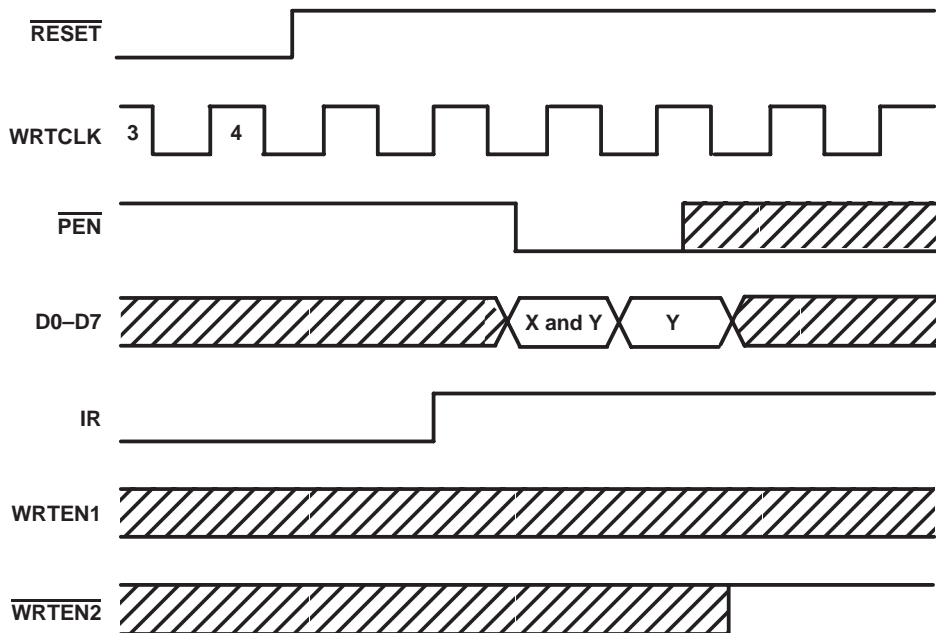

Figure 4. Programming X and Y Separately
Program enable (\overline{PEN}) should be held high throughout the reset cycle. \overline{PEN} can be brought low only when IR is high. On the following low-to-high transition of WRTCLK, the binary value on D0–D7 is stored as the almost-empty offset value (X) and the almost-full offset value (Y). Holding \overline{PEN} low for another low-to-high transition of WRTCLK reprograms Y to the binary value on D0–D7 at the time of the second WRTCLK low-to-high transition. When the offsets are being programmed, writes to the FIFO memory are disabled, regardless of the state of the write enables (WRTEN1, WRTEN2). A maximum value of 63 can be programmed for either X or Y (see Figure 4). To use the default values of X = Y = 8, \overline{PEN} must be held high.